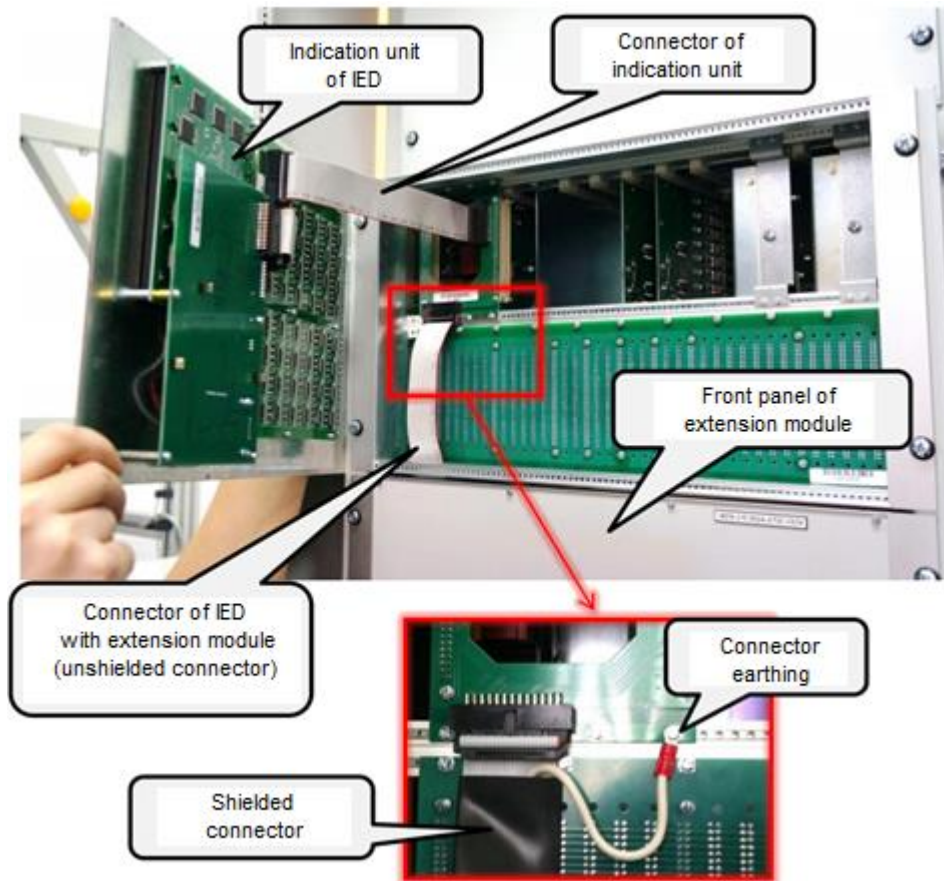

Figure 126 – Removal of the indication module from the device
13.6.2.3 Unscrew all the screws securing the module to the cassette (see figure 126), holding the module with a hand in order to prevent the module from falling.
13.6.2.4 Gently disconnect the flexible connection of the module with the motherboard (see figure 126).